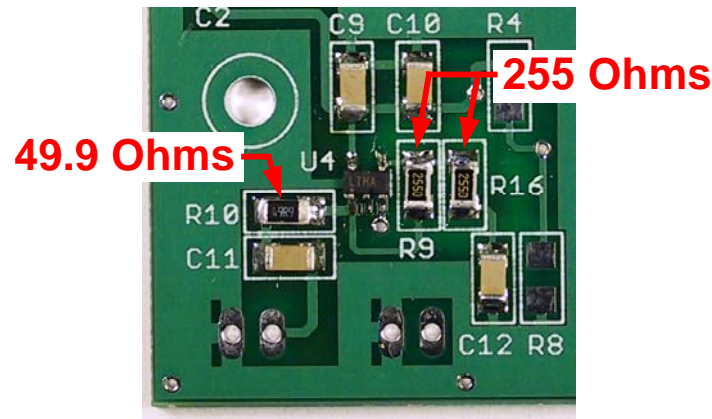

Figure 7. R9, R10 and R16 Locations
- ☐ Remove the 49.9 Ohm resistor from Bag 2. It is marked 49R9. Refer to **Figure 7**. Install it at R10.
- ☐ Remove the strip of 255 Ohm resistors from Bag 2. These are marked either 2550 or 255R Refer to **Figure 7**. Install these at: